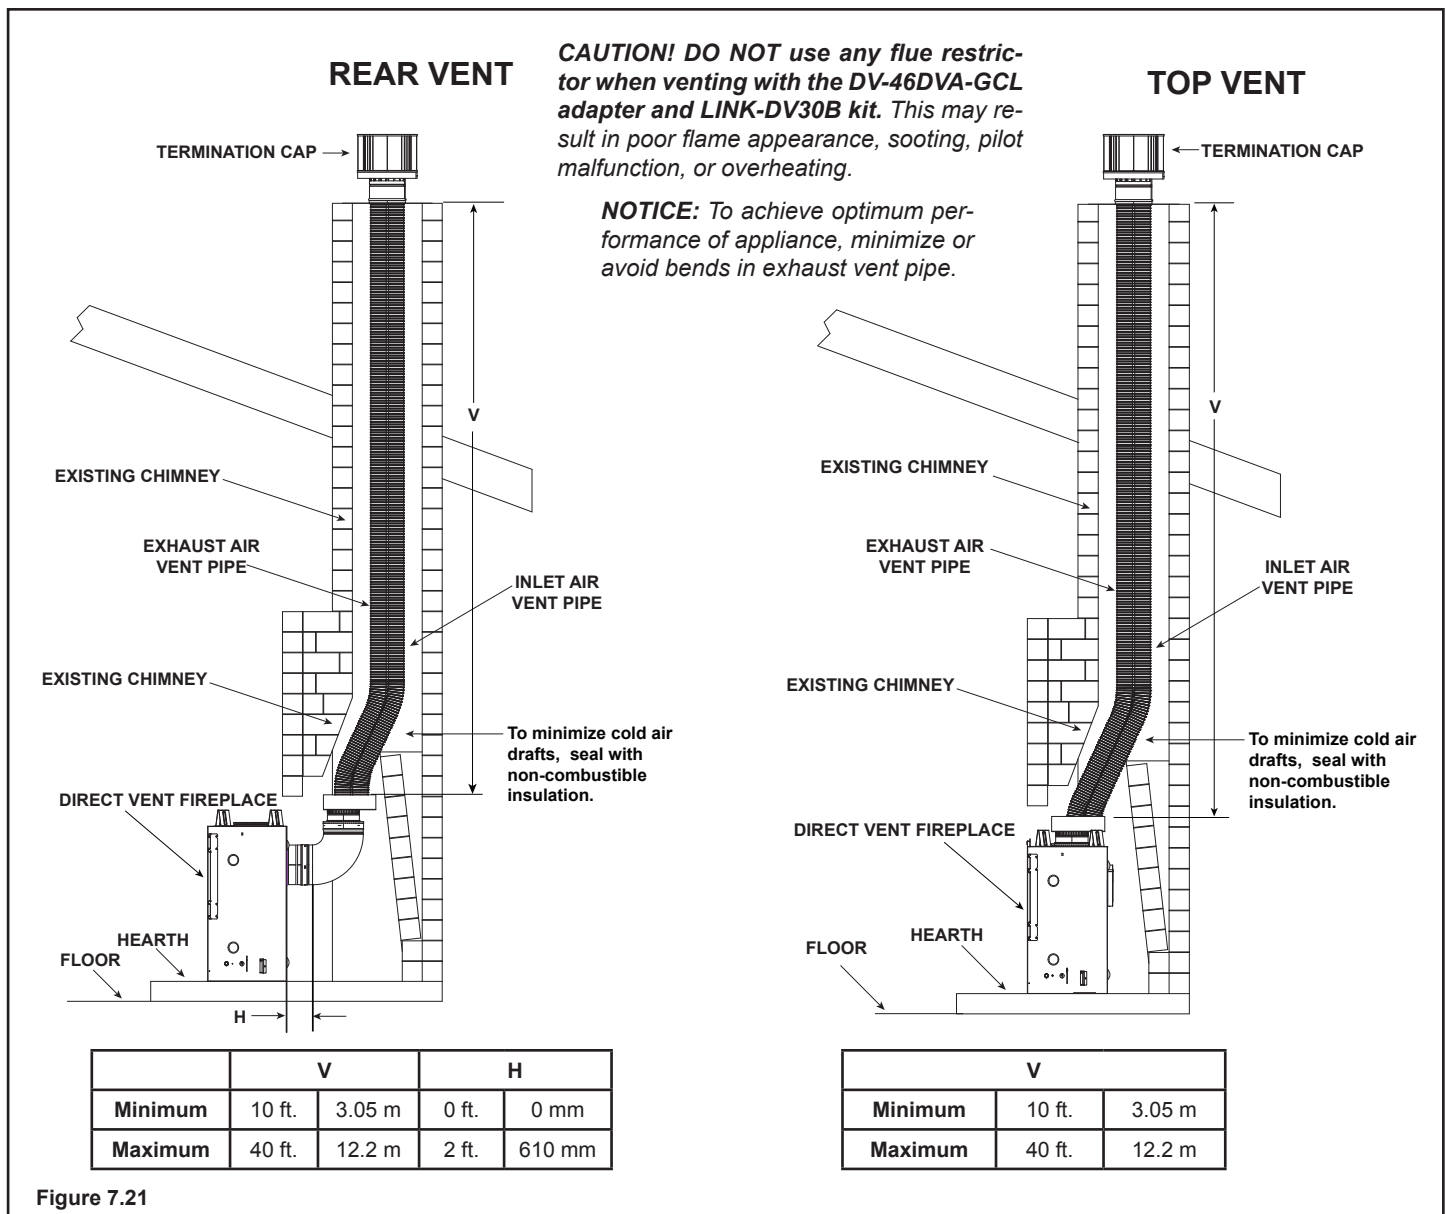

Figure 7.21
SLP Collar: Install the DV-46DVA-GCL adapter to the appliance starting collar with 3-1/2 in. self-tapping screws. See Figure 7.21.
- Remove the rear seal cap and insulation if equipped. Connect the DVP-2SL adapter to the vertically positioned elbow. Follow installation instructions included with DVP-2SL kit. Secure DV-46DVA-GCL adapter to DVP-2SL with 3-1/2 in. self-tapping screws. See Figure 7.21.